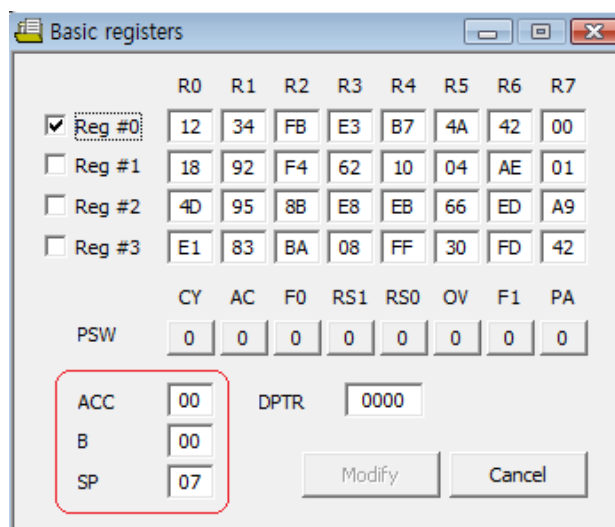

Figure 33. Using the Basic Registers Function, #5 of 6
In Figure 33, the red area highlights the Accumulator (ACC), the B Register (B) and the Stack Pointer (SP) registers. Enter a number in n 8-bit hexadecimal format to change any of these values.